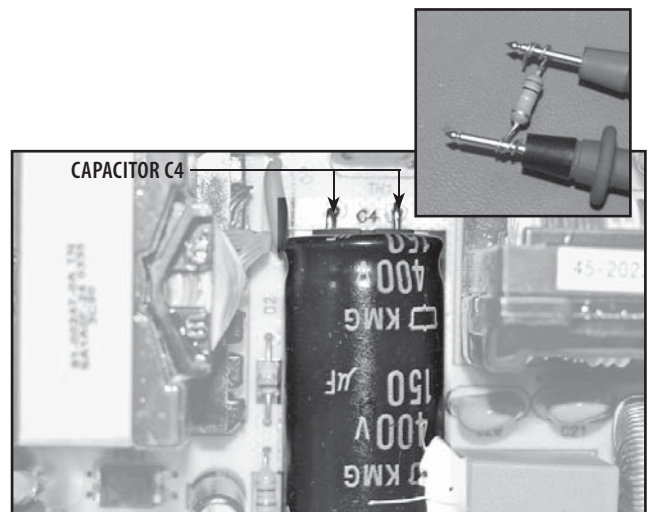

FIGURE 6.8
4. Discharge the 400V Capacitor by wrapping a 10k resistor around the probes of a Multi meter. Touch the leads of the Multi meter to the prongs on the capacitor to discard. **See Figure 6.8.**